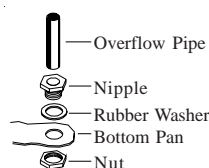

Fig. 5
• **Install overflow assembly.** Remove nut and place nipple through the hole in the pan, with the rubber washer between the pan and the head of the drain nipple (Fig. 5). Screw on nut and draw up tight against bottom of pan. Insert overflow pipe in nipple to retain water. Overflow pipe may be removed to drain pan when necessary. A garden hose may be screwed on the drain nipple to drain water away from your unit.